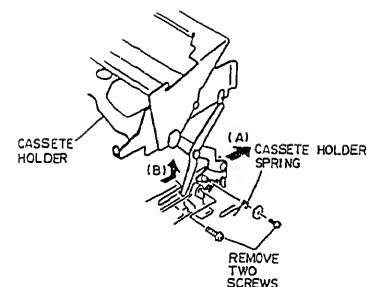

Fig. 2-53
5. Remove two (2) screws holding the cassette holder and cassette holder spring. (See Fig. 2-53)
7. Move the front arm of the cassette holder in the direction of arrow (A). (See Figs. 2-53, 2-54)
8. Move the rear arm of the cassette holder in the direction of arrow (B). (See Figs. 2-53, 2-54)